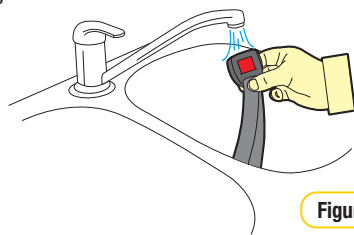

Figure 2
Step 2: Place the Harness Buckle under warm (max. 40 degrees Celsius) running water as shown below. Let the water run through the mouth of the buckle for five minutes. Do not immerse the harness in water (refer Figure 2).